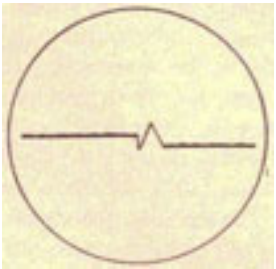

Figure 4 SJ-8. Position for correct ranging.
3. To measure the range, first turn lobing switch (7) off; then rotate the range crank, which moves the step on the scope, until the step is approximately at the pip being measured.
5. Advance the step until the beginning of the pip sets exactly in the corner of the step as in figure 4 SJ-8.